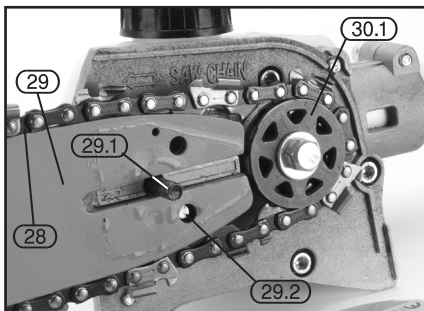

FIG. 6
- With the engine stopped, remove the 10mm nut (30.1) anticlockwise, followed by the drive sprocket cover (30).
- Adjust the chain tension adjustment screw (27) until the tensioning pin (27.1) is approximately in the midway position.
- Hold the guide bar (29) up and beginning at the nose [tip] lay the saw chain (28) in to the groove. Make sure the nose sprocket teeth sit correctly between the chain links (Fig.6).